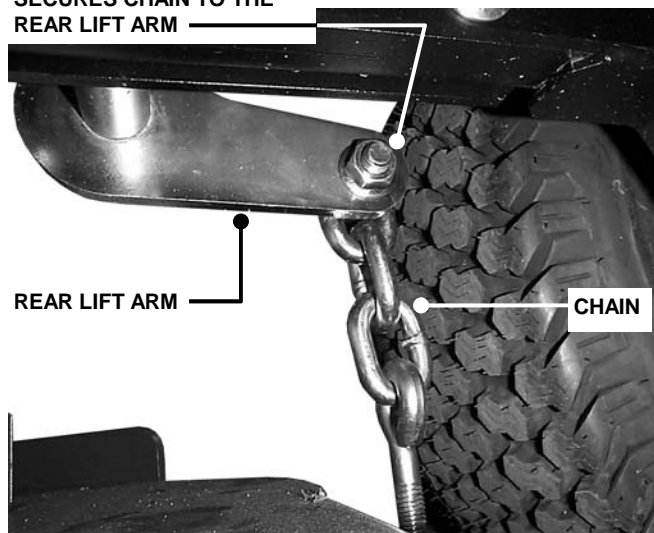

FIGURE 4.11
5. Remove inside nuts that secure chain to rear lift arm. See Figure 4.11.